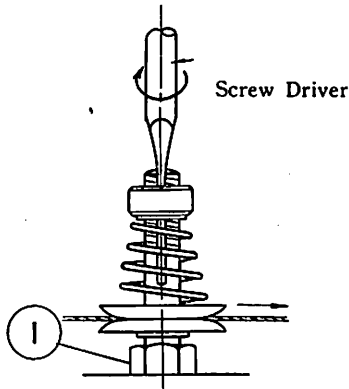

Fig. 17
16. TIMING THE NIPPER RELEASING PLUNGER OF TENSION DISC NO. 2 (Fig. 17)
The standard motion is, as shown in Fig. 17, to rotate the needle driving pulley toward the arrow direction as you pull the thread and the tension disc No. 2 will float up and the thread will be slipped out quickly.
Insert a screw driver into the tension post No. 2, as shown in Fig. 17, loosen nut ① and rotate the tension post toward the arrow direction.